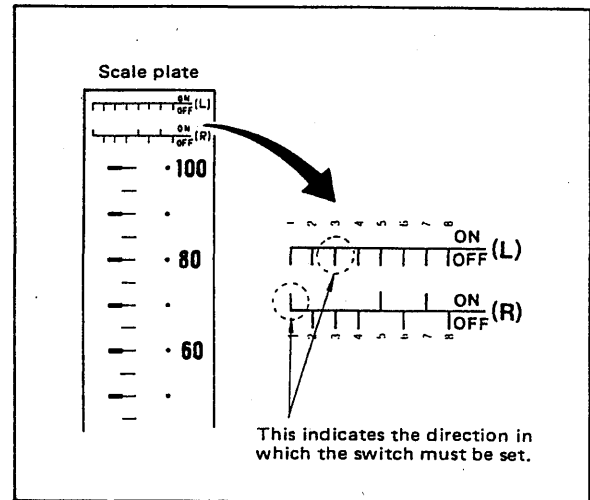

Figure 6-2-7. DIP Switch Setting Direction Mark Printed on the Scale Plate.
- (3) The DIP switch setting direction mark is printed on the scale plate. (See Figure 6-2-7.)
- (4) Set the DIP switches as indicated by the direction mark of the scale plate; the digital display coincides with the scale marks of the scale plate.
- (5) To display a scale range which is different from the scale range already set, use the four-digit display unit and set the eight-digit DIP switch: